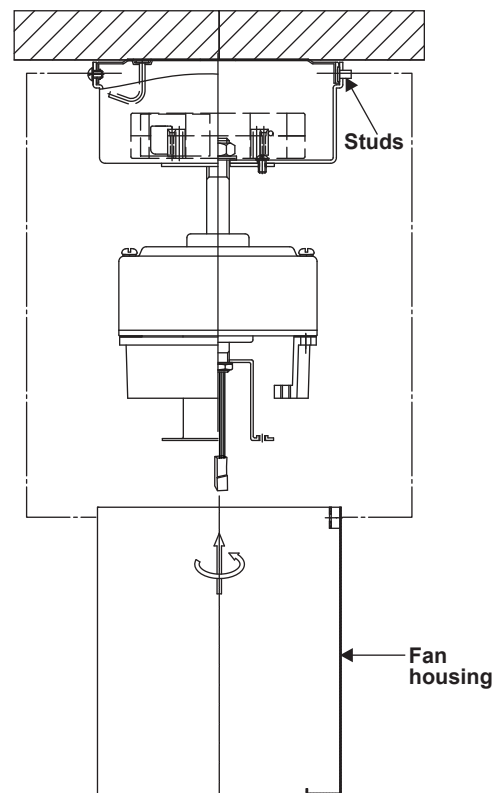

Figure 8
Step 2. Raise the fan housing up against the mounting bracket. The four supports inside the fan housing should be placed against the four studs on the mounting bracket. Twist the fan housing clockwise until snug. (Fig. 8)